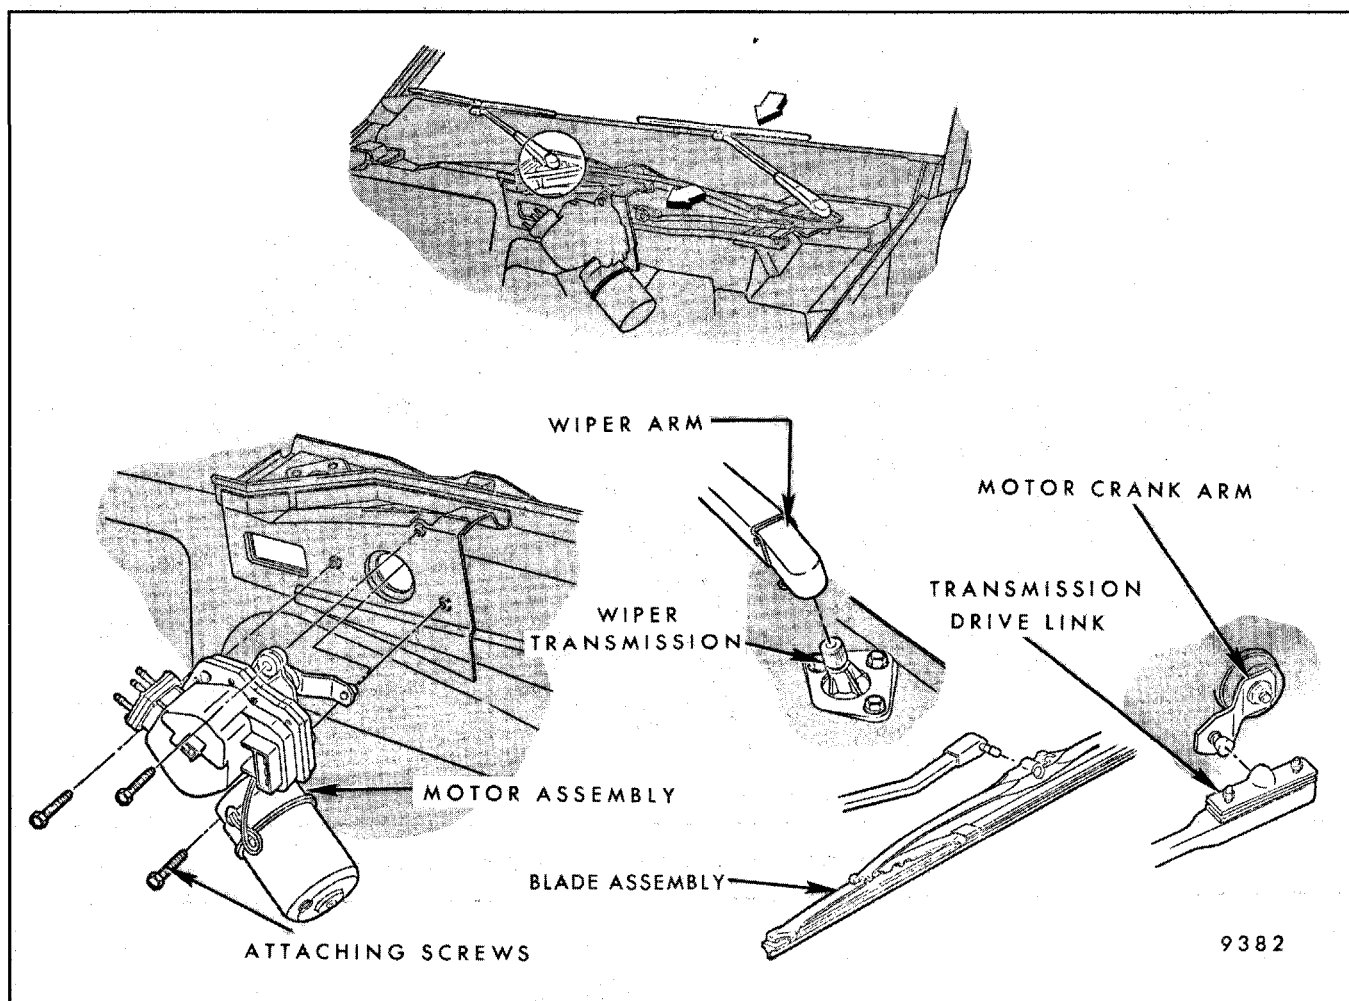

Fig. 2-32 - Round Motor Installation "B, C, D" Styles
3. Loosen (do not remove) attaching nuts securing transmission drive link(s) to motor crank arm (Fig. 2-32, 2-33, 2-34, or 2-35).
9. On "A, E, F and K" styles, install transmission drive link(s) to motor crank arm and tighten attaching nuts to 25 to 35 in-lb torque. On "B, C, D" styles torque attaching nuts to 3.4 to 5.1 N·m (30 to 45 in-lb). See Figures 2-32, 2-33, or 2-35.